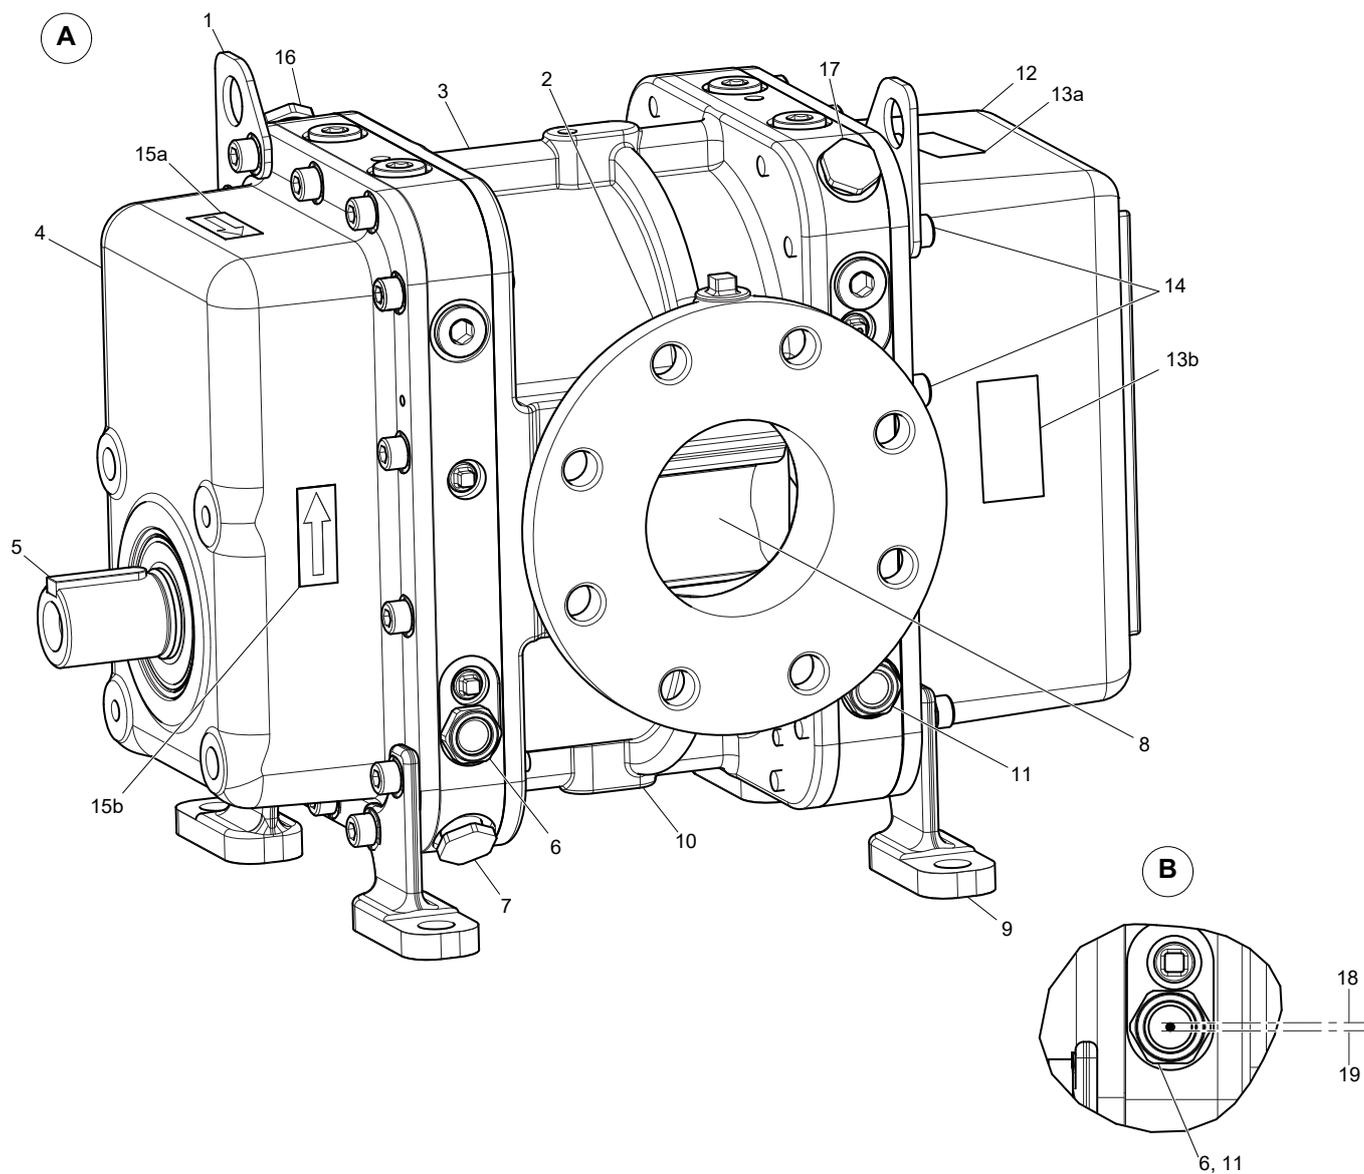

Figure 1 – Components of the NX blower
The identification and rating plate (Figure 1, item 13) provides specific details about the blower, such as its Item Number and so on.
Refer to Figure 1. The NX blowers are positive displacement blowers, which incorporate two three-lobe rotors (8). One of the rotors is driven by the drive shaft (5). The other rotor is maintained in the correct phase relation by timing gears. The timing gears and the bearings on the rotors and drive shaft are lubricated by oil in the drive end cover (4) and non-drive end cover (12).